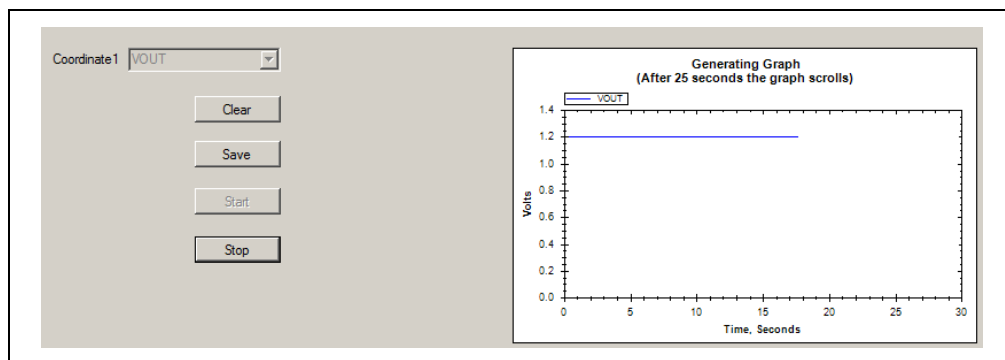

FIGURE 4-6: *Statistics Menu.*
- In the Statistics menu (Figure 4-6), select one of the options in the “Coordinate1” selection box to display the corresponding graph. The following options are available: